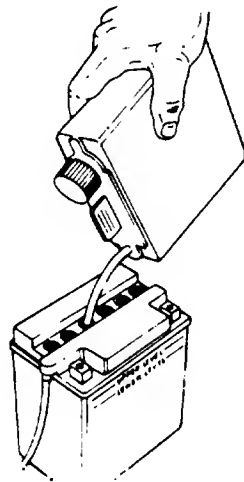

FIGURE 3.
6. Fill each battery cell slowly and carefully to the **UPPER LEVEL** line marked on battery. See figure 3.